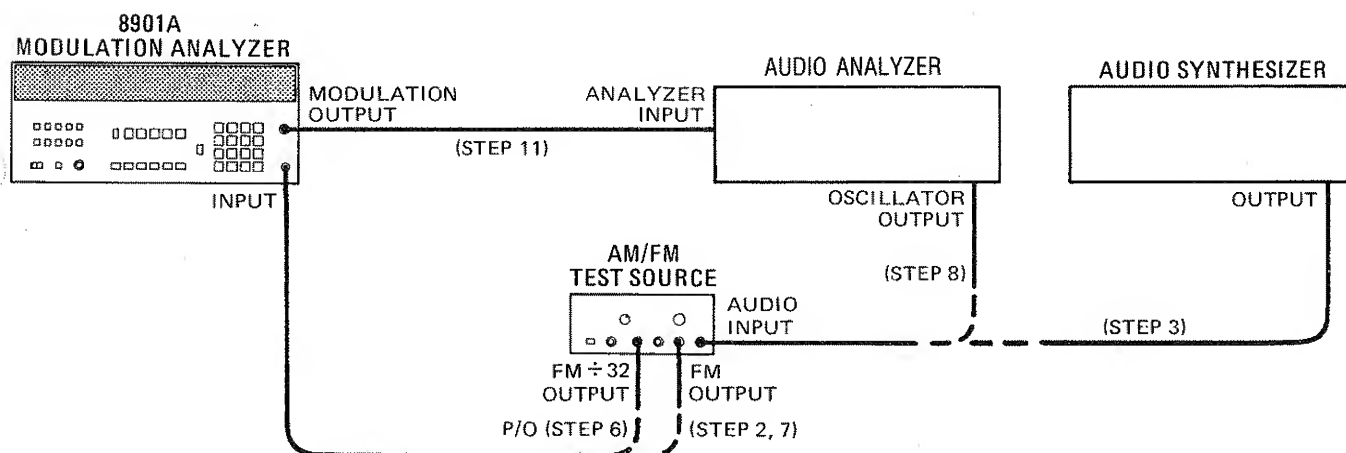

Figure 4-5. ΦM Performance Test Setup
2. On the AM/FM test source, set the test mode to FM. Connect its FM output to the Modulation Analyzer's INPUT. (See figure 4-5.)
3. Set the audio synthesizer to 200 Hz at -10 dBm. Connect its output to the audio input of the AM/FM test source. (See figure 4-5.)
* Connect the FM÷32 output of the AM/FM test source to the Modulation Analyzer's INPUT to make this measurement. (See figure 4-5.) Press AUTOMATIC OPERATION, then MHz to retune the Measuring Receiver. If the resolution is not 0.001 rad, press Φ M again.
7. Connect the FM output of the AM/FM test source to the Modulation Analyzer's INPUT. (See figure 4-5.) Press AUTOMATIC OPERATION on the Modulation Analyzer.
8. Set the audio analyzer's source to 1 kHz. Connect its output to the audio input of the AM/FM test source. (See figure 4-5.)
11. Connect the audio analyzer's input to the Modulation Analyzer's MODULATION OUTPUT. (See figure 4-5.) Set the audio analyzer to measure the distortion on the 1 kHz signal at the MODULATION OUTPUT. Set the high-pass filter on the audio analyzer to 400 Hz. (All audio analyzer filters should be off.) The distortion should be 0.1% (-60 dB or less).